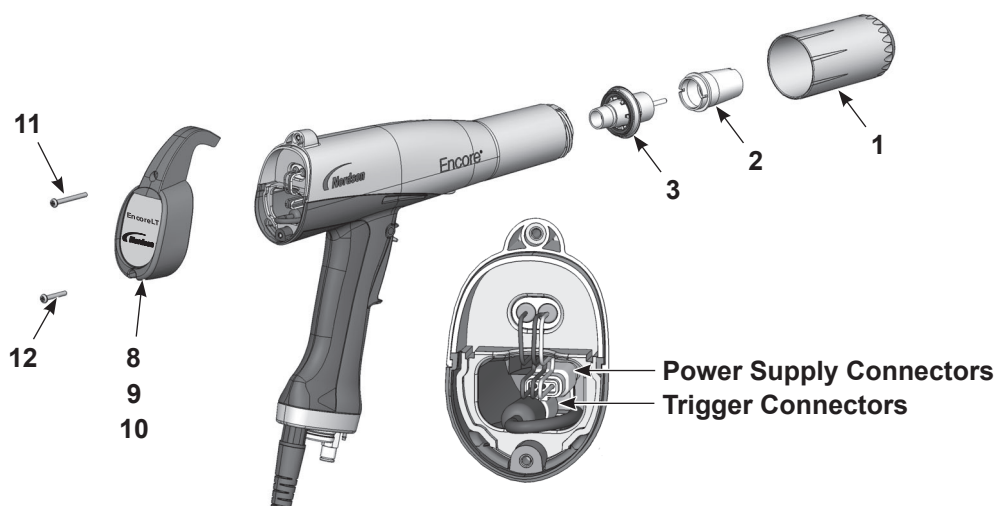
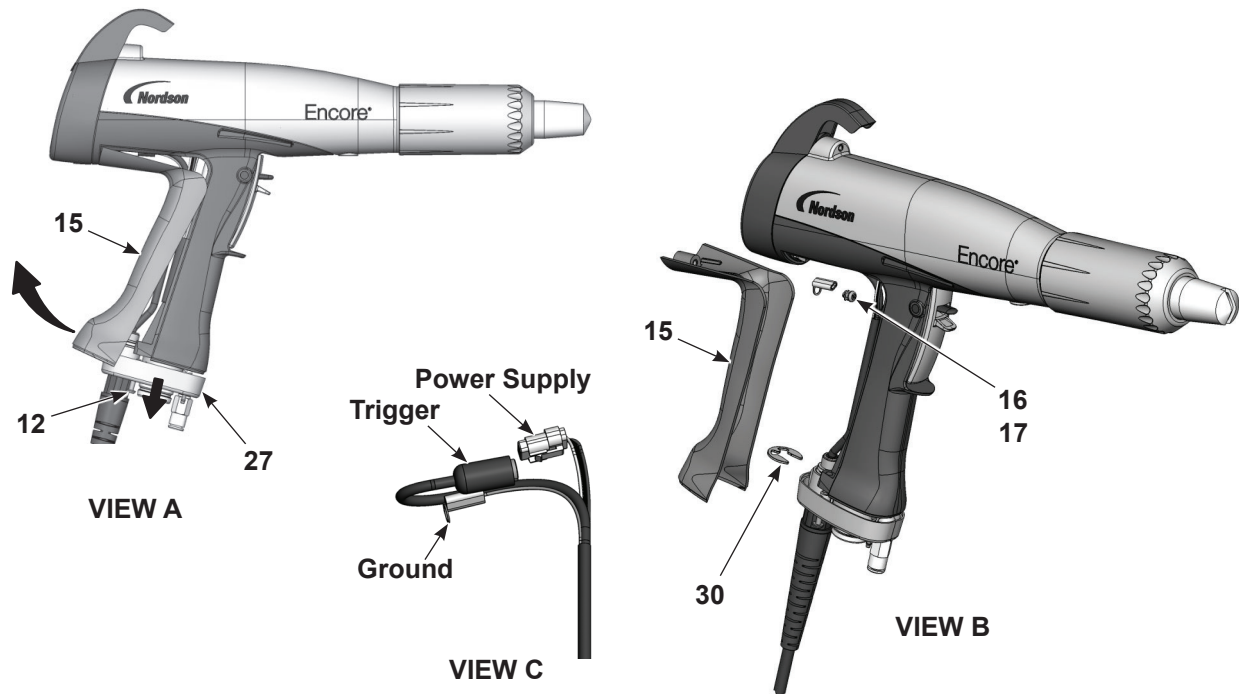

Figure 6-1 Gun Disassembly
Figure 6-6 Cable Replacement
1. See Figure 6-1. Remove the nozzle nut, nozzle, and electrode assembly (1, 2, 3).
4. See Figure 6-1. Install the cover, housing, and hook as shown.
5. Install the electrode assembly (3) into the front of the gun body. Make sure the wire electrode is not bent or broken.
6. Install the nozzle (2) on the electrode assembly, making sure the keys in the electrode assembly slide into the slots on the nozzle.
7. Install the nozzle nut (1) over the nozzle and rotate clockwise to secure.
2. See Figure 6-1. Remove the bottom screw (12) from the housing (9).
3. See Figure 6-6, View A. Loosen the two M3 x 20 screws (12) securing the handle base (27) to the handle.
4. Pull the base away from the handle enough to free the bottom edge of the ground pad (15) from the base.
6. See Figure 6-6, View B. Remove the M3 x 8 screw, lock washer (16, 17), and ground terminal from the ground pad.
7. Remove the E-ring (30) from the cable.
8. See Figure 6-6, View C. Pull the cable connectors out of the handle. Disconnect the power supply harness from the gun cable by inserting a small flat-bladed screw driver in the slot of the power supply harness connector to release the catch.
1. See Figure 6-6. Feed a new cable through the handle base, then install the E-ring (30) on the cable to hold it in place.
3. Connect the cable terminal to the ground pad (15) with the M3 x 6 screw and lock washer (16, 17).
6. Push the handle base (27) up against the handle and ground pad, and tighten securely the two M3 x 20 screws (12) in the base.
7. See Figure 6-1. Install the bottom M3 x 20 screw (12) in the housing (9) and tighten it securely.
1. See Figure 6-6. Remove the ground pad as described in Cable Removal steps 1–5 . You do not have to disconnect the ground cable from the ground pad.